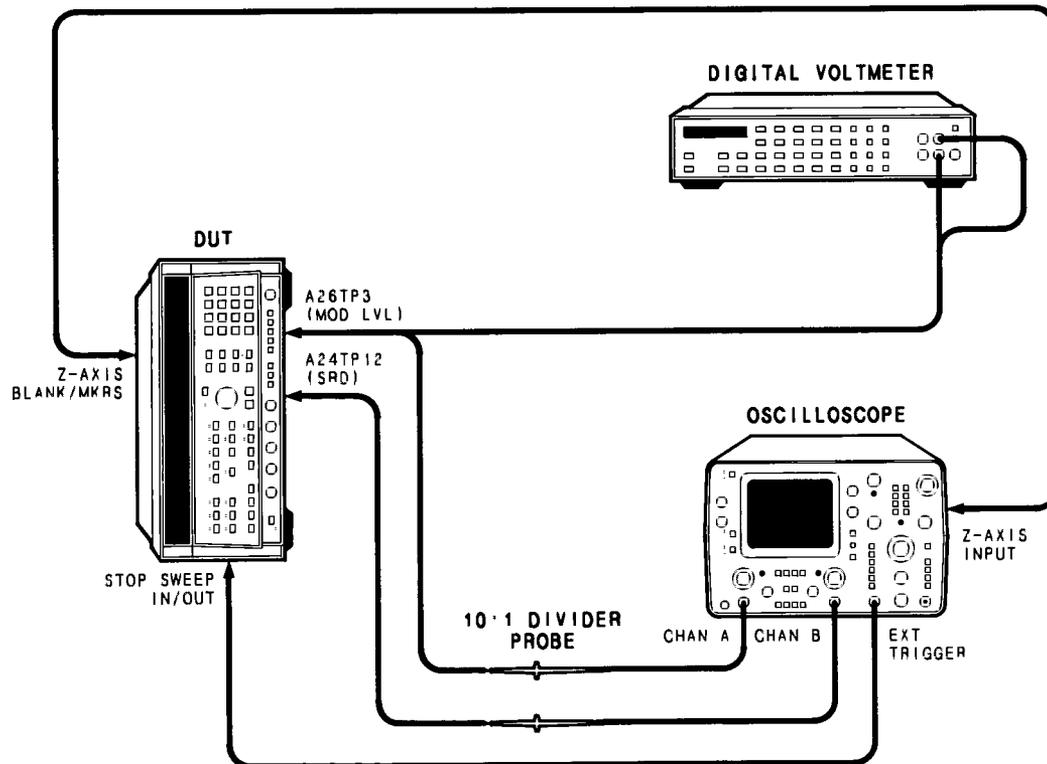

Figure 5-52. Leveled Power SRD Bias Adjustment Test Setup
4. Disconnect the DVM and connect the oscilloscope as shown in Figure 5-52.